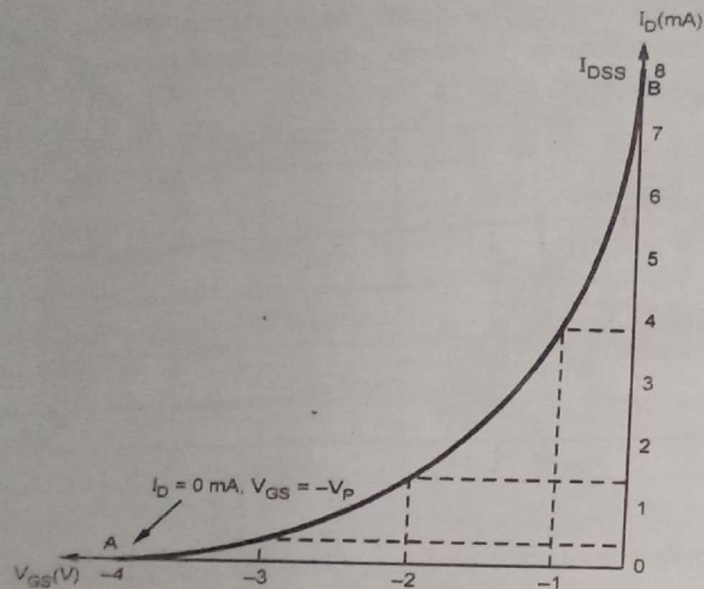

Fig. Q.11.1 Transfer characteristics of n-channel JFET
- The relationship between the drain current I_D and gate to source voltage V_{GS} is non-linear as shown in the Fig. Q.11.1 This relationship is defined by Shockley's equation